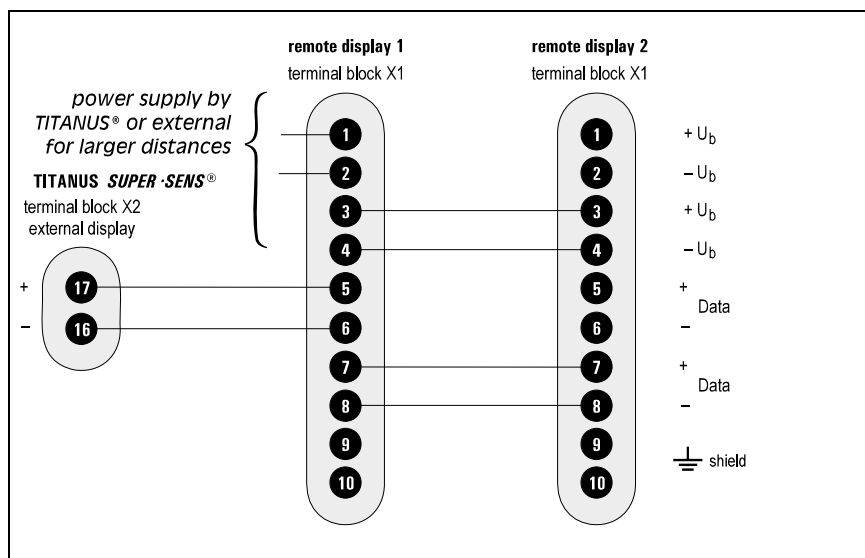

Fig. 5.26: Connection of the remote display to the TITANUS®
- ❶ To prepare the remote display and the blind plate for the installation lock the included quick acting closures into the rectangular perforations of the front plate.
- ❷ Place the quick acting closures into the sub-rack and fix them in the sub-rack by a quarter turn.
- ❸ For the electrical connection refer to Fig. 5.26.